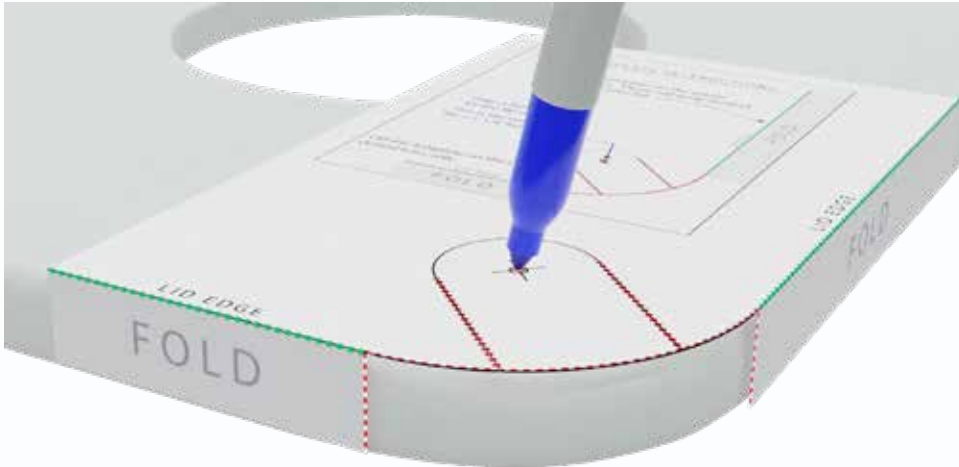

figure 25
**Step 1:** Carefully position the template in the corner of the lid where a circulator will be located. With a marker, mark the location of the center point for the hole saw (figure 25).